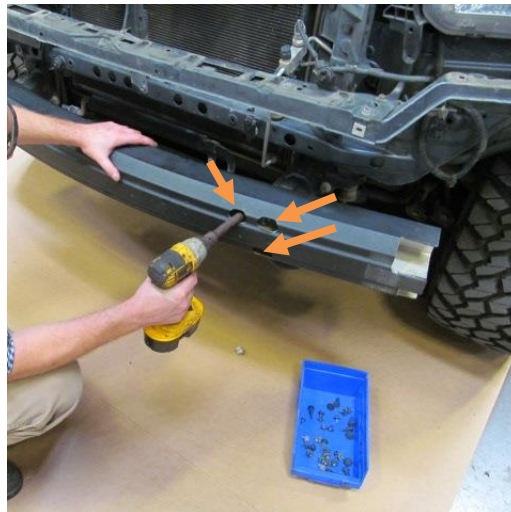

FIGURE 18:
18. USING A 17MM SOCKET REMOVE THREE NUTS FROM REINFORCEMENT BUMPER BAR. (BOTH SIDES)SEE FIGURE 18.